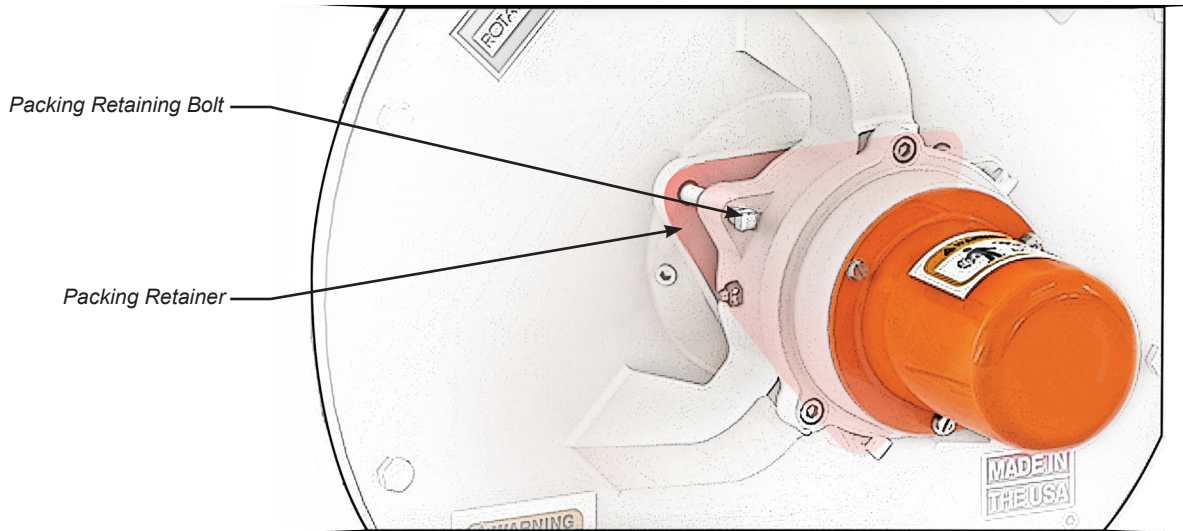

FIGURE 6
- a. Use an open-end wrench to alternately tighten the packing retainer bolts (3) approximately 1/8 turn at a time as shown below (Figure 6).